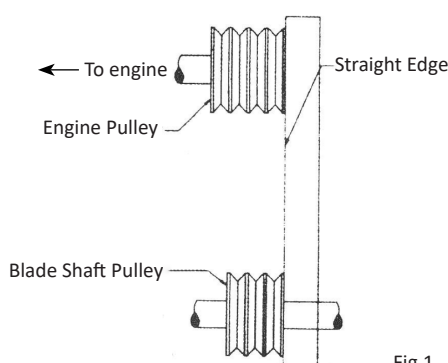

Fig.1
2. Take up tension until the belts are snug in the grooves. Run the drive for about five (5) minutes to “seat” the belts. If the belts slip, tighten them until they no longer slip at peak load. Most new belts will need additional tensioning after seating.
6. To check alignment, use a steel straight edge. See Figure 1.
7. Line up the straight edge along the outside face of both pulleys shown in the drawing. All pulleys have (2) set screws in the bottom of their grooves. Set screws require threadlocker.